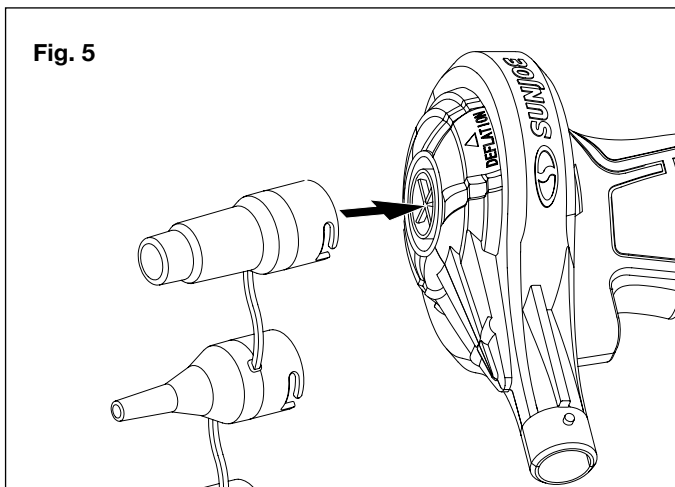

Fig. 5
2. To attach an adapter to the deflator end, simply snap the adapter into place (Fig. 5).